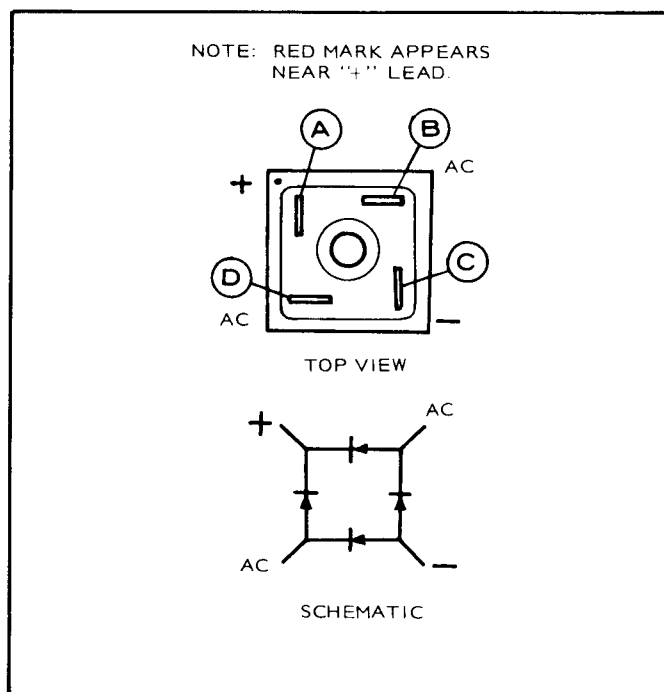

FIGURE 70. TESTING BRIDGE RECTIFIER
5. Now place meter leads on points shown in Figure 70 and note readings from Table below.